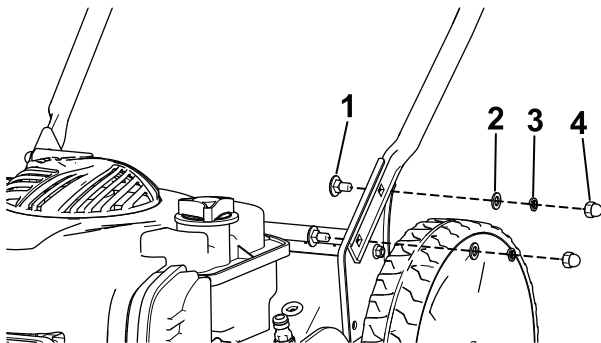

Figure 3
1. Attach the lower handle to the mower housing with 4 bolts, 4 flat washers, 4 split washers, and 4 nuts (Figure 3).